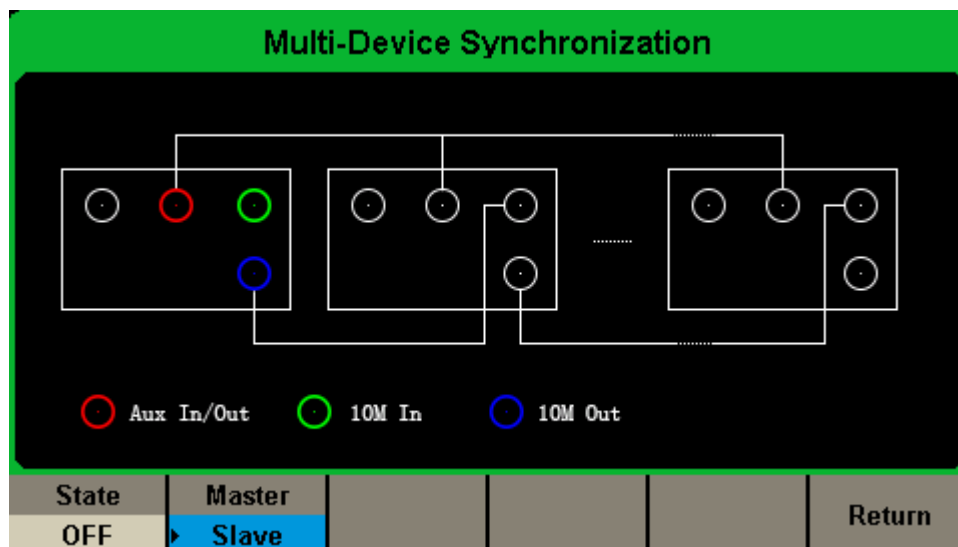

Figure 7. Select the unit as the Slave device
1) Enter into the Multi-Device Synchronization menu. Select it as Slave, Slave will be shaded in blue, as in Figure 7. As the device is set to a slave device its clock source is automatically set to external.